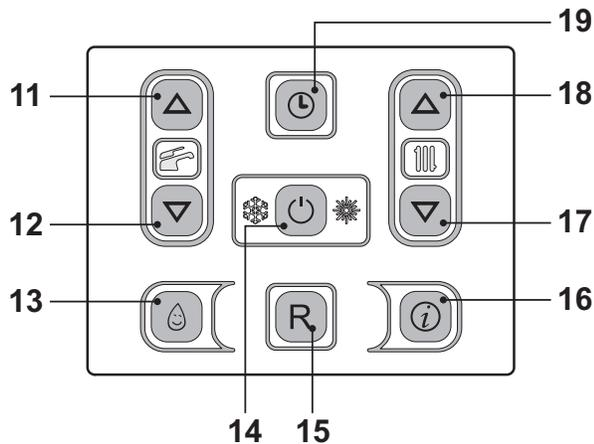

Fig. 2.29
Enter "programming mode" by holding down keys 11 and 19 for 5 seconds (Fig. 2.29) until the LCD display indicates the symbols shown
To confirm the on/off point and move on to the next point, press key 14 in Fig. 2.29.